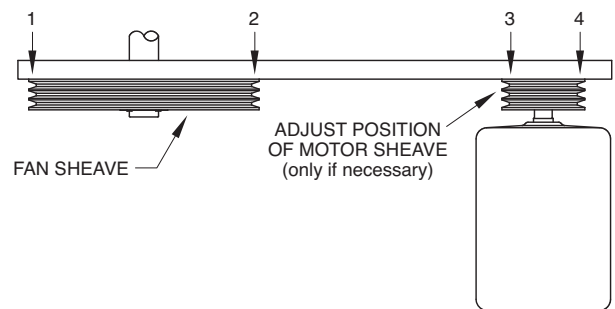

Figure 33 - Sheave Alignment Check
9. As a final check, lay a straight edge from sheave to sheave. There should be four point contact. (See Figure 33.) Adjust the position of the motor sheave as necessary.